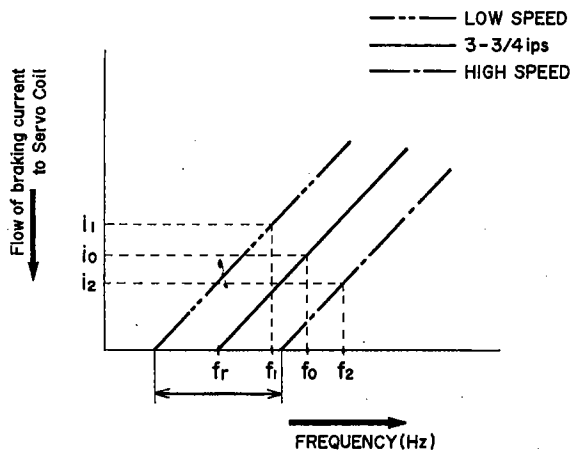

Fig. 36
6. In case of the capstan motor revolutions having reached the speed of n_2 , the detector signal produced at the detector coil surpasses f_0 and advances toward the higher f_2 frequency. (See Figs. 36 & 37) Accordingly, the flow of current to the servo coil increases, and because the electro-magnetic braking supplied to the capstan motor is increased, the capstan motor revolutions become slower, and normal revolutions are regained.
7. In case of the capstan motor revolutions having slowed to n_1 , the detector signal produced at the detector coil drops to lower than f_0 and descends toward the low f_1 frequency (See Figs. 36 & 37). Accordingly, the flow of current to the servo coil decreases, and because the electro-magnetic braking supplied to the capstan motor is decreased, the capstan motor revolutions speed up and normal revolutions are regained.
As shown in Fig. 36, resonance frequency f_r (between the arrow mark) is changed by adjusting the dust core of discriminator coil L1 (VI2031SC-01). Accordingly, f_0 is also changed between f_1 and f_2 , and the flow of braking current (i_0) to the servo coil is also changed between i_1 and i_2 . Consequently, correct tape speed can be attained by using a tape speed measuring tape and a Frequency Counter and adjusting the dust core of coil L1.